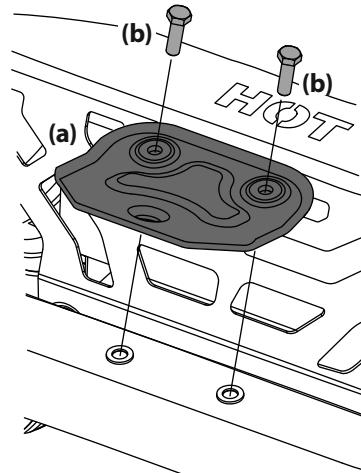

Figure 2
3. Align either side of the slope gauge with the object (See Figure 1 and Figure 2).
4. Adjust gauge up or down until the left corner touches the slope (See Figure 1 and Figure 2).
5. If there is a gap below the gauge, the slope is too steep for safe operation (See Figure 2 above).
- Locate Hitch (a) and install on the rear of the frame using the two hex washer screws (b) provided. See Figure 2.